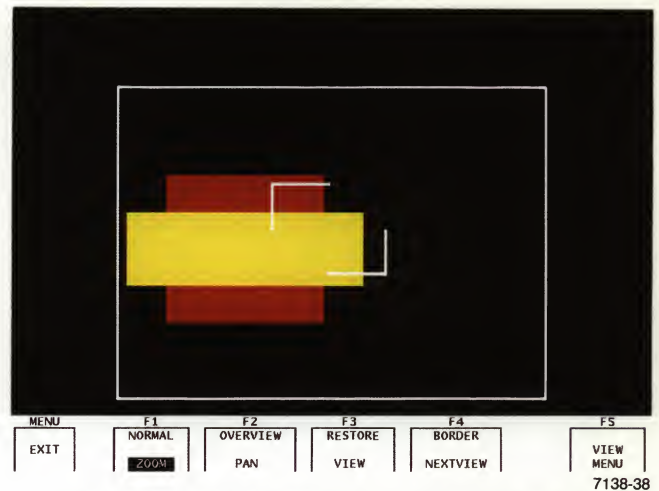

Figure 6-2. Display With Zoomed In Framing Box.
3. Use the cursor pad to decrease the framing box until it includes only a part of the graphic. See Figure 6-2.